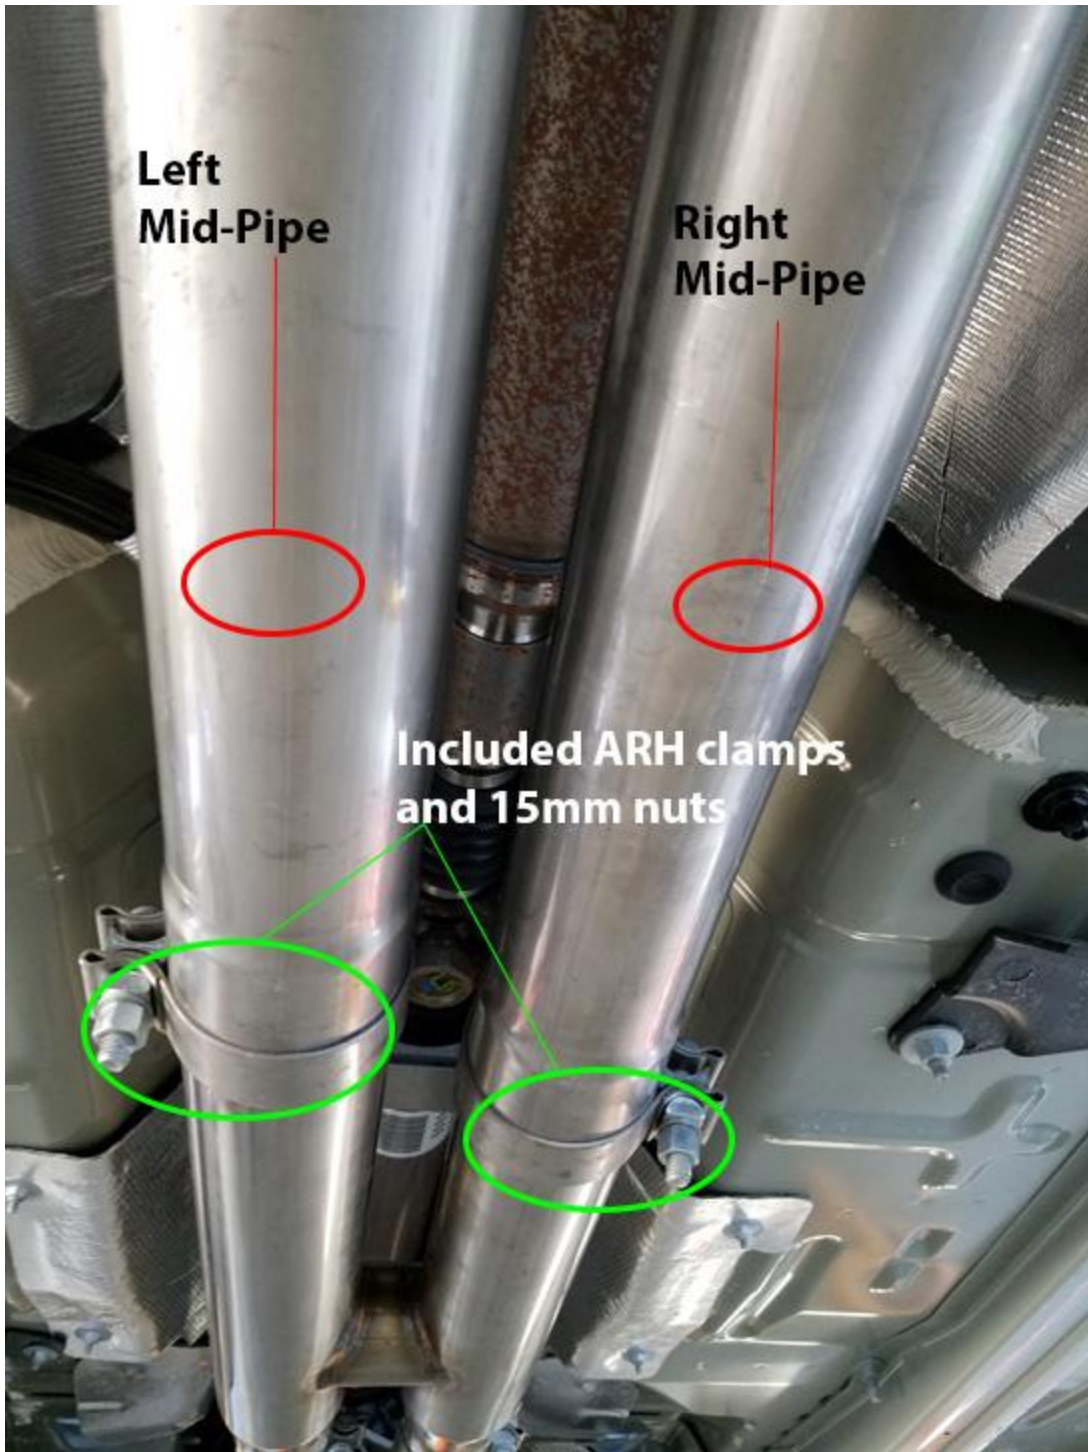

Figure 2b ARH Mid-Pipes attached to ARH H-Pipe
3. Place the one 3 inch clamps on the larger end of each mid-pipe labeled "R" and "L." Make sure the clamps are oriented with the nuts on the outside and facing down so they can be tightened. **(See figure 2b.)**
4. Fit the larger diameter end of the mid-pipe with the clamp labeled "R" on the passenger side over the H-pipe. Repeat on the left side. **(See Figure 2b.)**